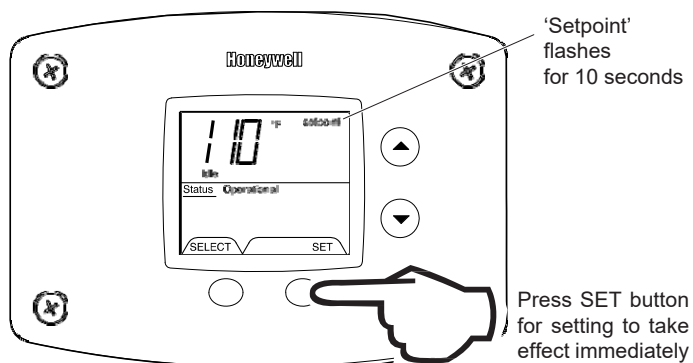

Fig. 30
3. Press 'SET' button for new setting to take effect immediately. 'Setpoint' will stop flashing. If the 'SET' button is not pressed, the new temperature setting will take effect in approximately 10 seconds (Fig. 30).